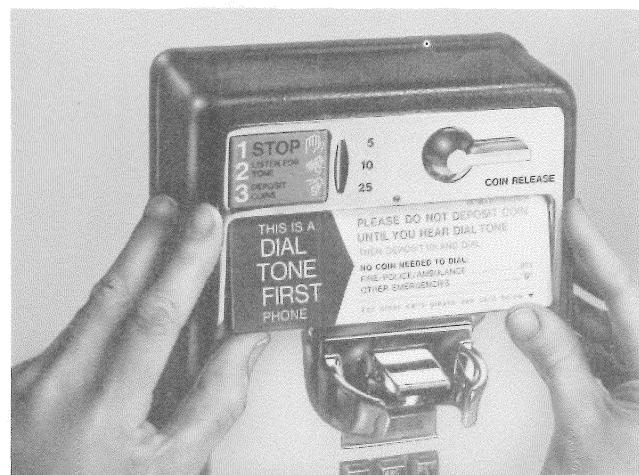
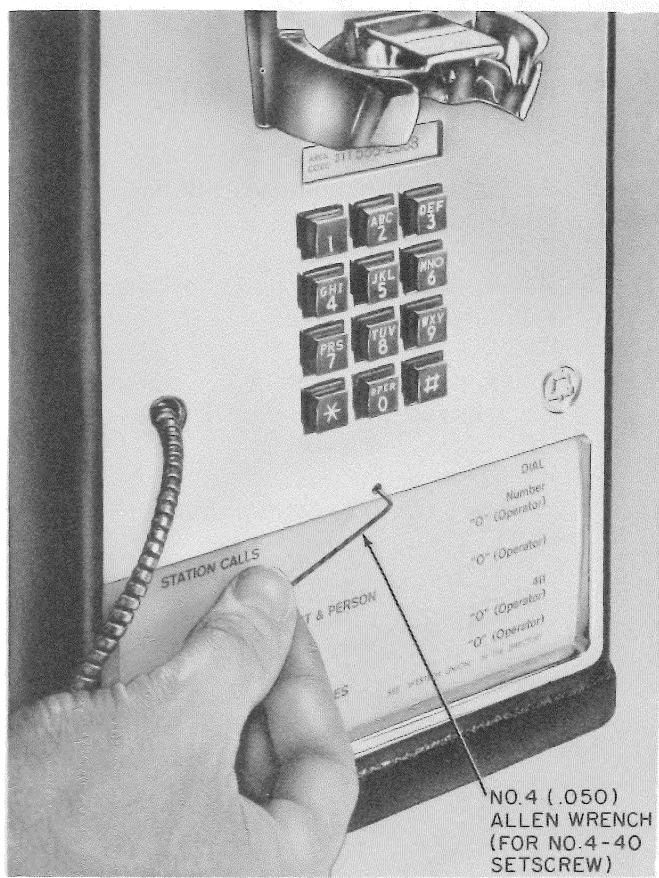

Fig. 23—Installing Instruction Cards (Typical)
Fig. 24—Securing Instruction Cards (Typical)
- (1) Loosen card locking setscrew (if provided) in faceplate using a No. 4 (.050) Allen wrench. Turn counterclockwise to loosen.
- (2) Push up with fingers (Fig. 23).
- (3) Snap card in place.
- (4) Ensure that card is seated properly in slot.
- (5) Tighten the No. 4-40 by 3/16-inch hex socket setscrew (840153381), if applicable, in faceplate (Fig. 24). Turn clockwise to tighten.